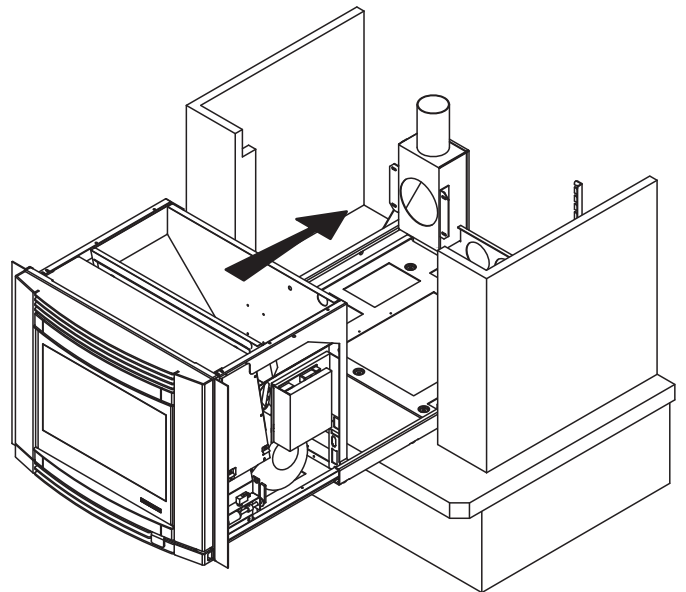

Fig. 6.1.9
- 3) Re-install the telescopic guides and re-insert the stove in the base (Fig. 6.1.9);